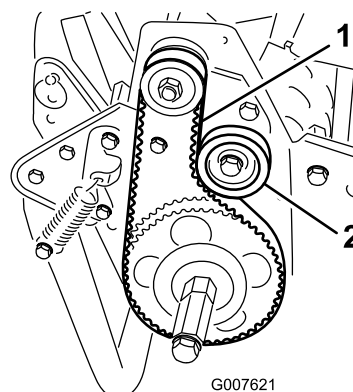

Figure 31
2. Check the tension by pressing the belt at mid span of the pulleys (Figure 31) with 4 to 5 lb of force. The belt should deflect 1/4 inch.
the belt until the desired belt tension is attained (Figure 31).